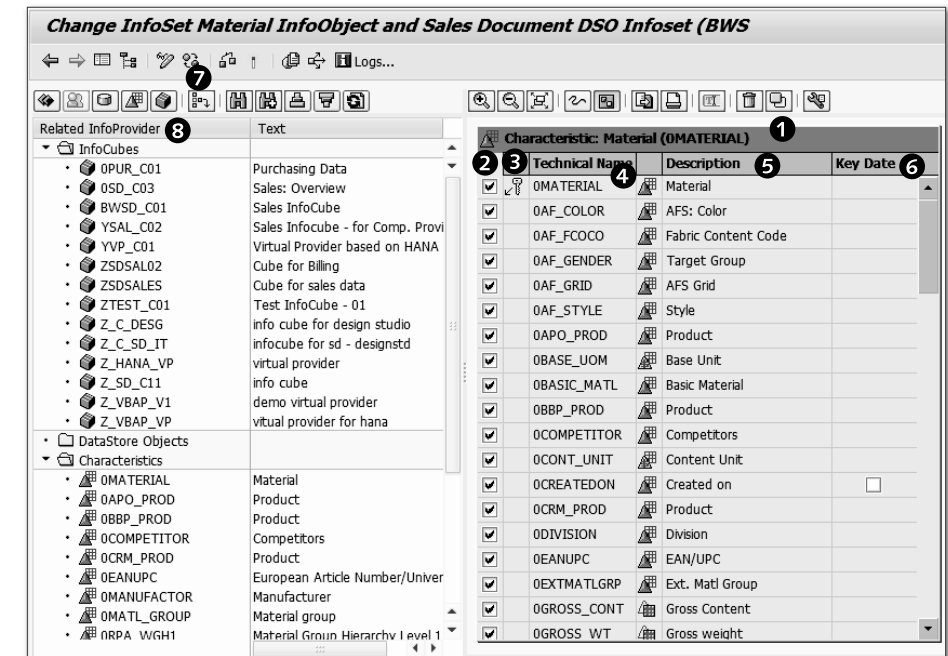
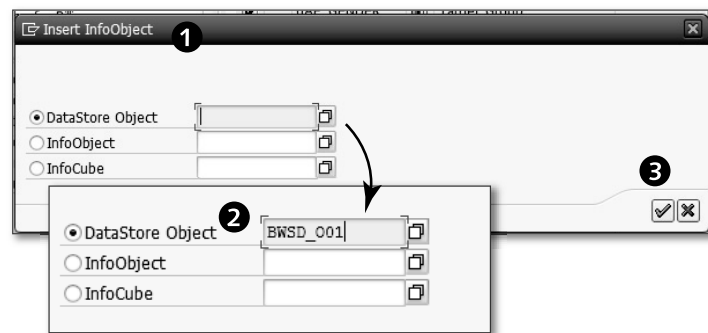

Figure 6.21 Understanding the Initial Screen
Figure 6.22 Inserting a Second Source
The START WITH INFOPROVIDER area allows you to supply the technical name of the first source you want to include in the definition of InfoSet BWSD_IS1. In our example, we want to include an InfoSet based on InfoObject OMATERIAL and DSO BWSD_O01. Select the INFOOBJECT radio button, and enter the name of the InfoObject "Omaterial" ⑥. Now click on the CONTINUE icon ⑦. The resulting screen is shown in Figure 6.21.
InfoObject OMATERIAL is included as part of InfoSet BWSD_IS1. SAP BW internally allocates the number T00001 to the first object that is included in this definition (see ① of Figure 6.21). For the subsequent objects you include, it gives the number T00002, and so on.
Not all columns have titles, so we've numbered them to explain their significance. Column 2 of Figure 6.21 allows you to decide whether you want to include particular attributes of the OMATERIAL InfoObject in the final definition of the InfoSet. By default, SAP BW includes all of the attributes. Column 3 indicates whether the particular InfoObject is a key. For example, InfoObject OMATERIAL is the key for InfoObject OMATERIAL; for a DSO, all of the key fields are indicated as a key with a key icon . Columns 4 and 5 indicate the technical name and description of the attributes, respectively. Column 6 indicates whether the field is included or excluded while defining the result for a temporal join. The checkbox is only shown when the field is a date field; for example, for field OCREATEDON, the checkbox is shown, which is a date field.
Now you're ready to include your next source in the definition of InfoSet BWS-DS1. Select the INSERT INFOPROVIDER icon , as shown in 7 of Figure 6.21. The INSERT INFOOBJECT pop-up box appears, as shown in 1 of Figure 6.22. Three choices (DATASTORE OBJECT, INFOOBJECT, and INFOCUBE) are available as InfoSet definitions and can include either of the objects. Our example InfoSet is based on InfoObject OMATERIAL and DSO BWS-DS01.
Next, select the DATASTORE OBJECT radio button (if not selected already), and enter the technical name "BWS-DS01," as shown in 2 of Figure 6.22. Now click on the CONTINUE icon .